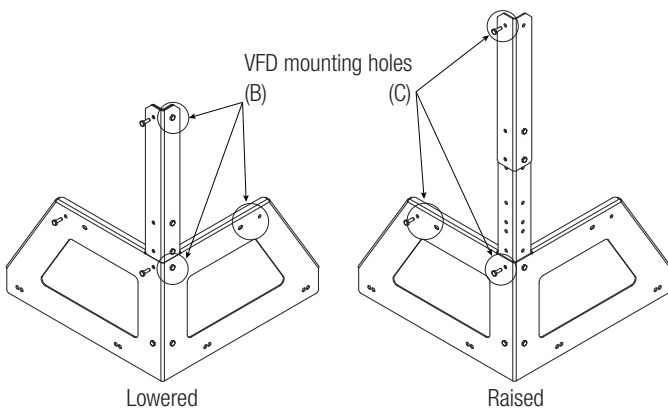

Figure 2
3. Using the supplied hardware, mount the VFD to the three point mounting bracket using holes B or C (See Figure 2).